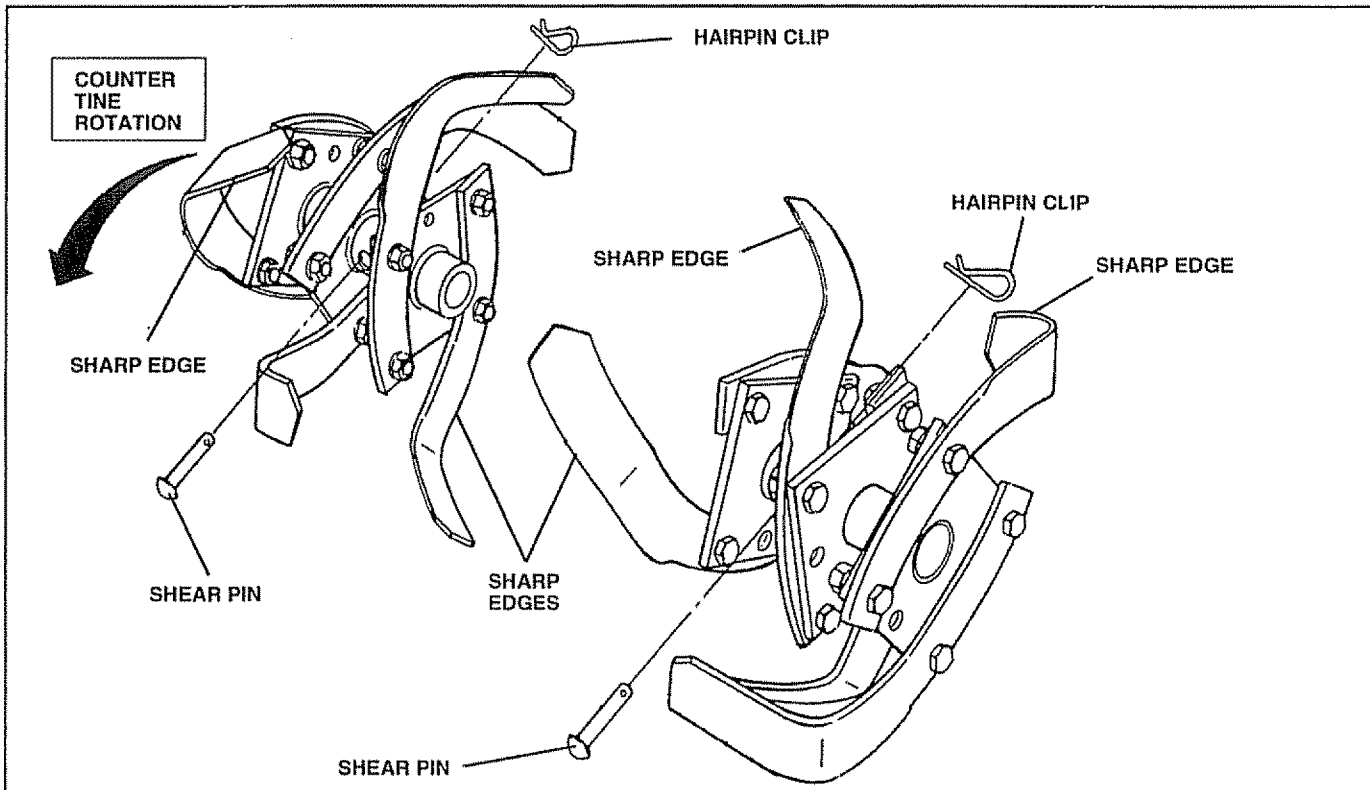

FIG. 26
- New tines should be assembled as shown in Fig 26. Sharpened tine edges will rotate rearward from above.